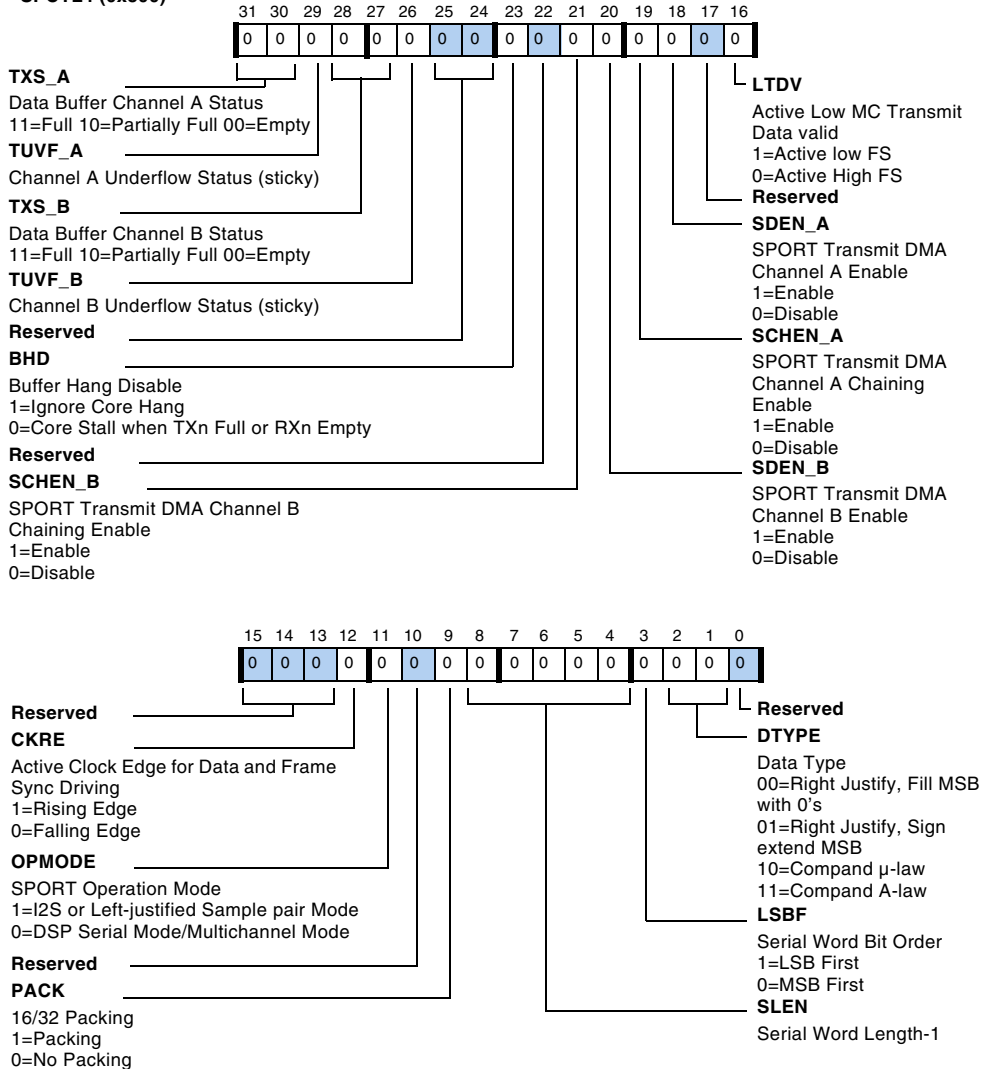

Figure A-23. SPCTLx Transmit Control Bits – Multichannel Mode
- Figure A-22 and Figure A-23 provide bit definitions for SPORTS 1, 3, and 5 (receive) in Multichannel mode.